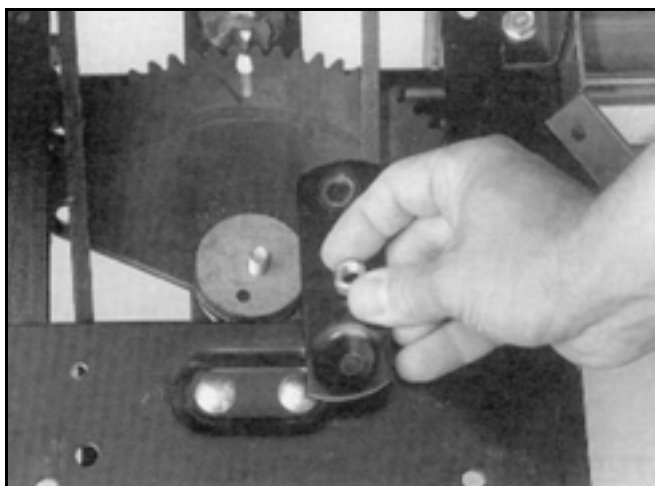

Figure 37
2. Remove the locking plate from the top of the sector gear (Figure 37).